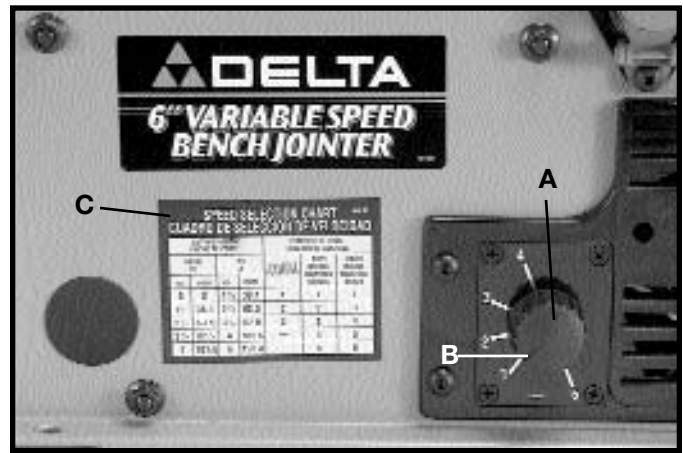

Fig. 23
Your jointer is supplied with a variable speed control knob (A) Fig. 23, that enables you to operate the machine at cutterhead speeds between 6000 and 11,000 RPM. Speed indicators of 1-2-3-4 and 5 are provided on the speed dial as shown. When the pointer (B) is pointing to 1, the cutterhead speed will be 6000 RPM; 2 – 7250 RPM; 3 – 8800 RPM; 4 – 9750 RPM; and 5 – 11,000 RPM.
A speed control chart (C) Fig. 23, indicates the recommended cutterhead speed setting when jointing plastics, soft woods and hard woods from 1-1/2" to 6" wide.